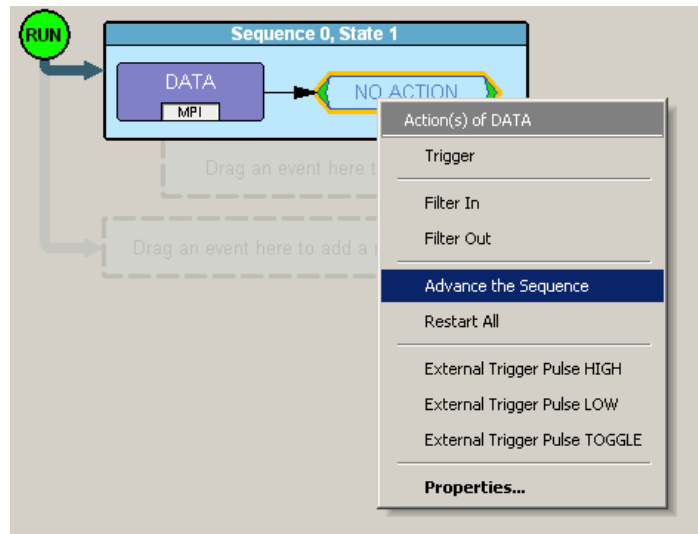

Figure 7.30 Example 5: Advancing the Sequence
Step 3 Right click in the **Action** box to the right of the Data button. The Action pop-up menu appears (Figure 7.30).